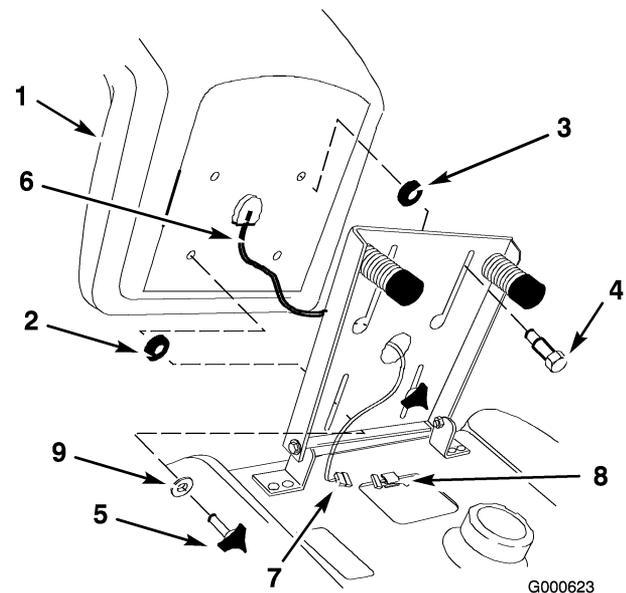

Figure 4
1. Install the large inside diameter spacer and the 2 shoulder bolts into the rear holes of the seat (Figure 4).
2. Position the seat onto the seat base by inserting the 2 shoulder bolts through the key hole openings at the end of both slots (Figure 4).
3. Locate the small inside diameter spacer between the seat and the seat base, thread the 2 knobs and 2 flat washers (11/32 inch) into the front holes in the seat (Figure 4). Adjust the seat and tighten the knobs.
- Route the seat switch wire and connector through the center opening in the seat base. Push the seat switch connector fully into the wire harness connector (Figure 4).
- Secure the seat switch wire cable to the fender opening (Figure 4).